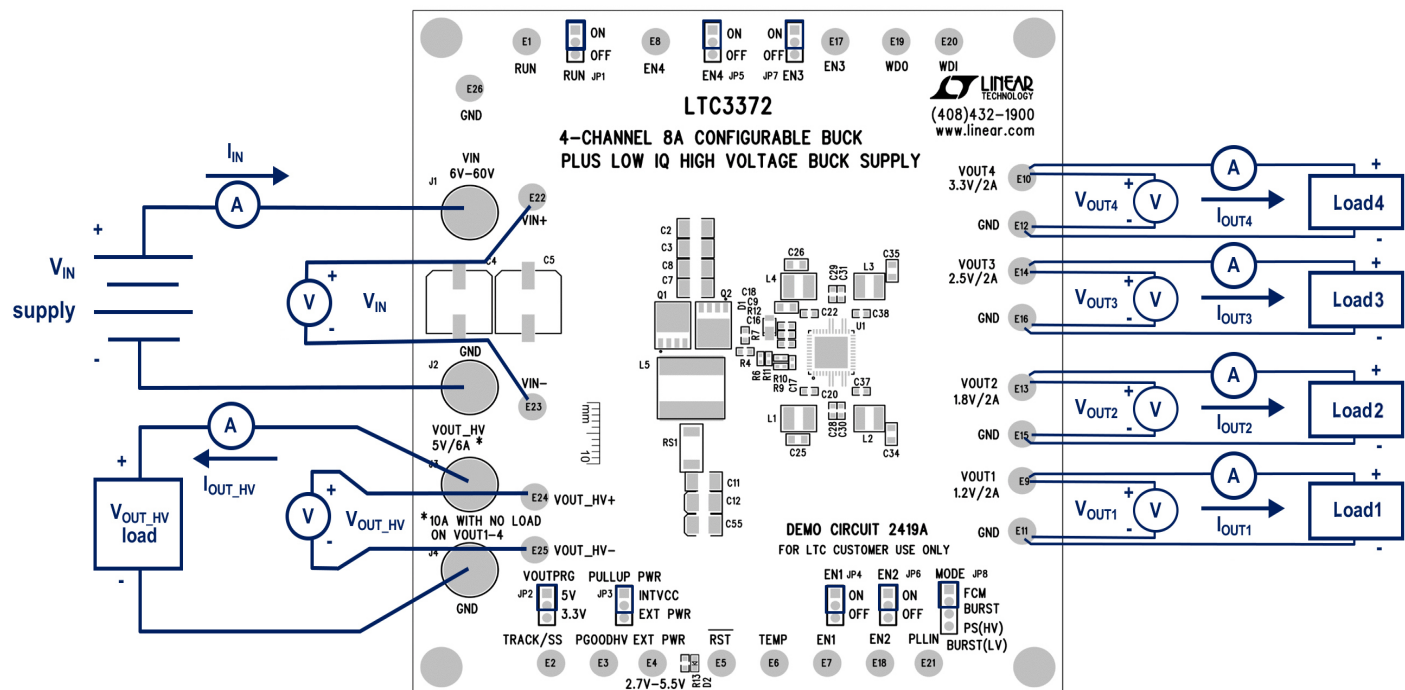

Figure 1. Proper Measurement Setup of the DC2419A
The evaluation setup for demonstration circuit 2419A is straight forward. Refer to the diagram shown in Figure 1.
- 1) With power off, connect the input supply, load and meters as shown in Figure 1. Preset the loads to 0A and V_{IN} supply to be 0V.